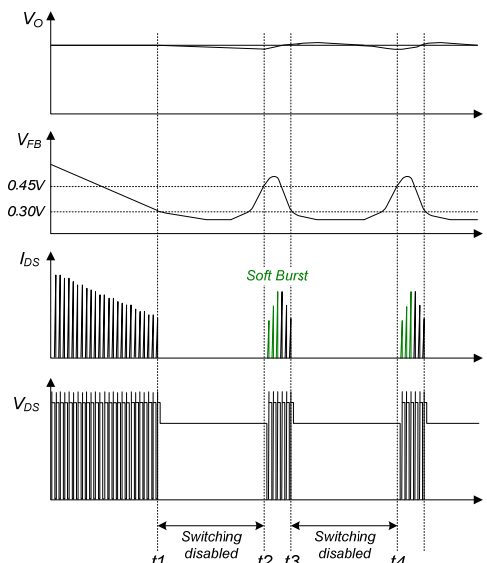

Figure 23. Burst-Mode Operation
5. Soft Burst-Mode Operation: To minimize power dissipation in Standby Mode, the FSD176MRT enters Burst-Mode operation. As the load decreases, the feedback voltage decreases. The device automatically enters Burst Mode when the feedback voltage drops below V_{BURL} (300 mV), as shown in Figure 23. At this point, switching stops and the output voltages start to drop at a rate dependent on standby current load. This causes the feedback voltage to rise. Once it passes V_{BURH} (450 mV), switching resumes. The feedback voltage then falls and the process repeats. Burst Mode alternately enables and disables switching of the SenseFET, reducing switching loss in Standby Mode.